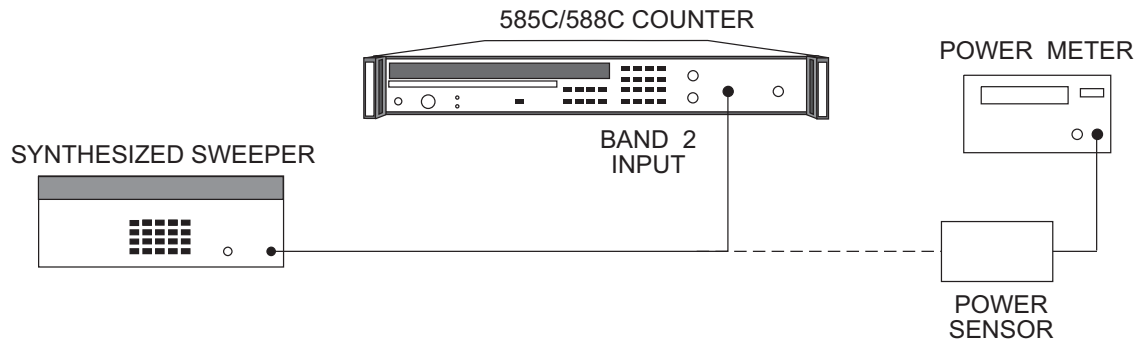

Figure 6-4. Band 2 CW Signal Range and Sensitivity Test Setup
1. Connect equipment as shown in Figure 6-4.